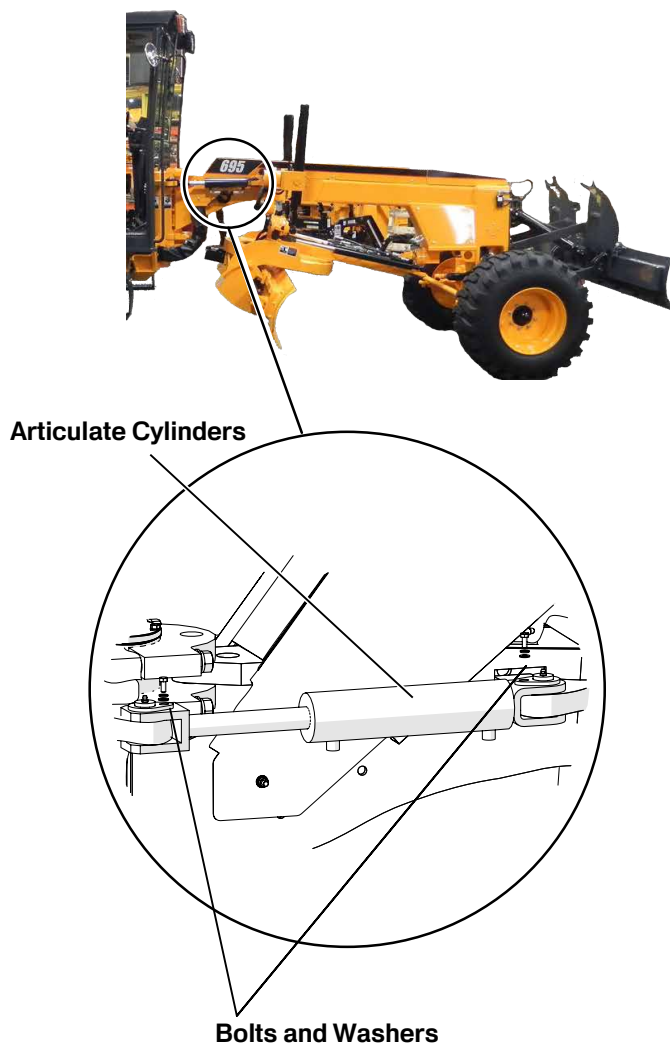

Figure 5-36. Articulate Cylinders (2 total; Right Shown)
3. Use a hammer and drift to force the pin forward and out of the shank. (**Figure 5-36**)
3. While supporting the tooth shank (**Figure 5-36**), use a hammer to drive the pin into the new tooth and shank.
2. Refer to **Replacing Scarifier Tooth Shank** and remove the scarifier tooth shank from the scarifier support (**Figure 5-36**).
3. While supporting the scarifier tooth shank, drive the scarifier tooth from the scarifier tooth shank (**Figure 5-36**).
1. While supporting the scarifier tooth shank, drive the new scarifier tooth on the scarifier tooth shank (**Figure 5-36**).
2. Refer to **Replacing Scarifier Tooth Shank** and install the scarifier tooth shank in the scarifier support (**Figure 5-36**).